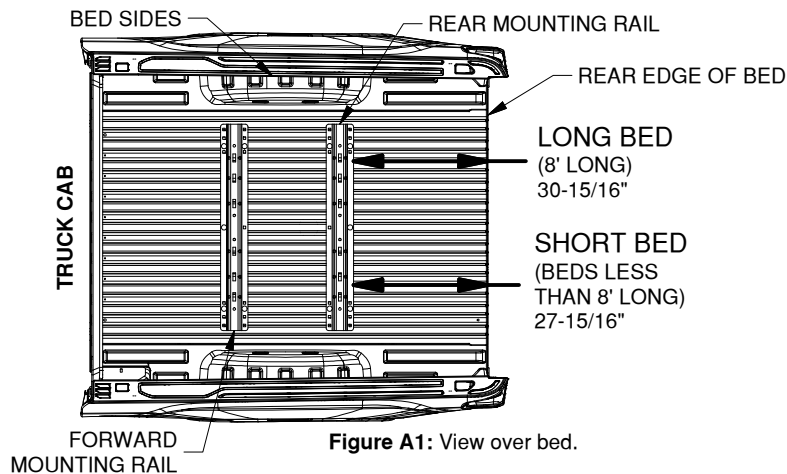

Figure A1: View over bed.
- 1. Layout the rear mounting rail.** Place a mounting rail onto the bed of the truck. Hook a tape measure over the rear edge of the bed (not on any part of the tailgate), measure the location for the mounting rail as shown in Figure A1. Next, center the mounting rail in the bed by measuring the distance on either side from the edge of the rail to the sides of the bed. The rail will be centered when both measurements on either side of the rail are the same.